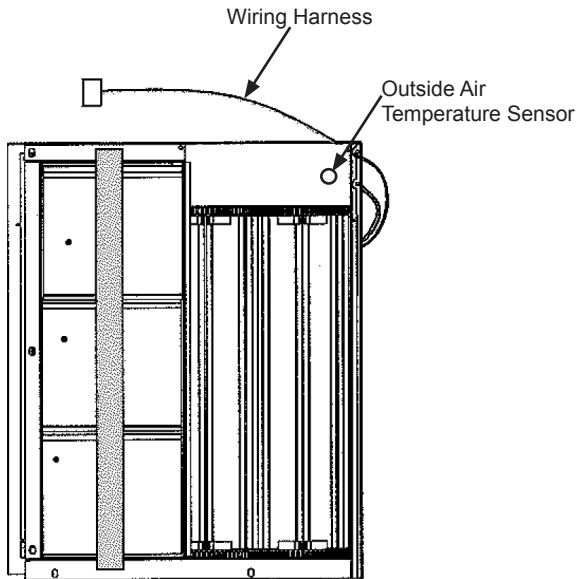

Fig. 1 - EconoMi\$er X Component Locations
6. If EconoMi\$er X will be operating under enthalpy control, replace the factory installed HH79ZZ007 outdoor dry bulb temperature sensor with accessory enthalpy sensor HH57AC081. (See Fig. 1.)